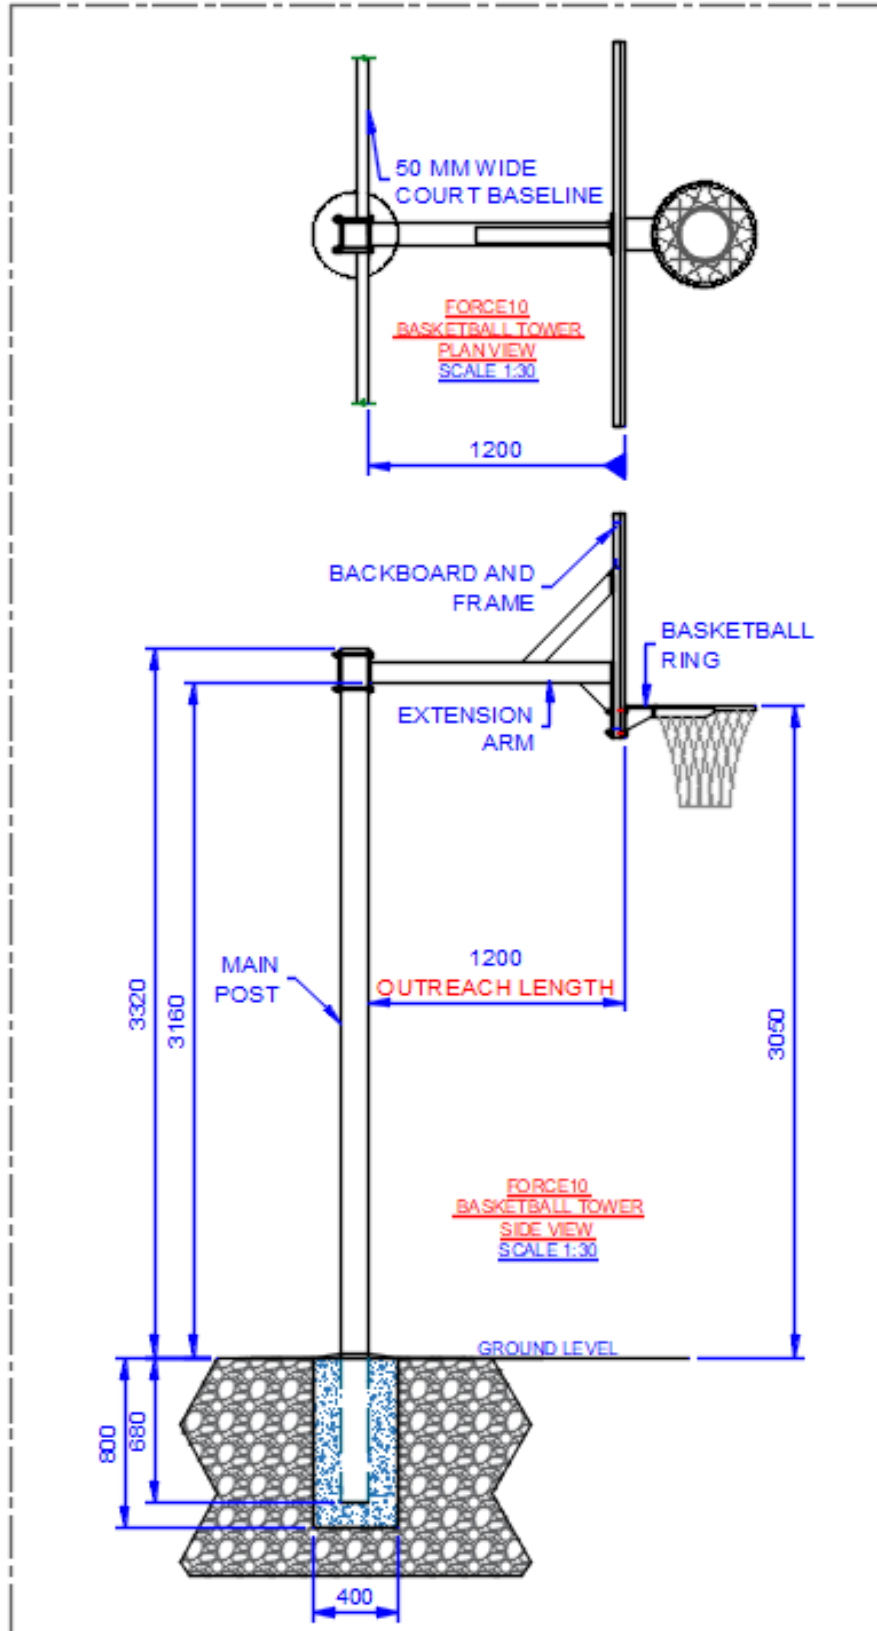

Figure 1: Force10 Basketball Tower
- *Please refer to Figure 1 for further details. The post must be installed in a specific orientation as shown in the Figure and it is the Installer/Contractor responsible for ensuring that.*